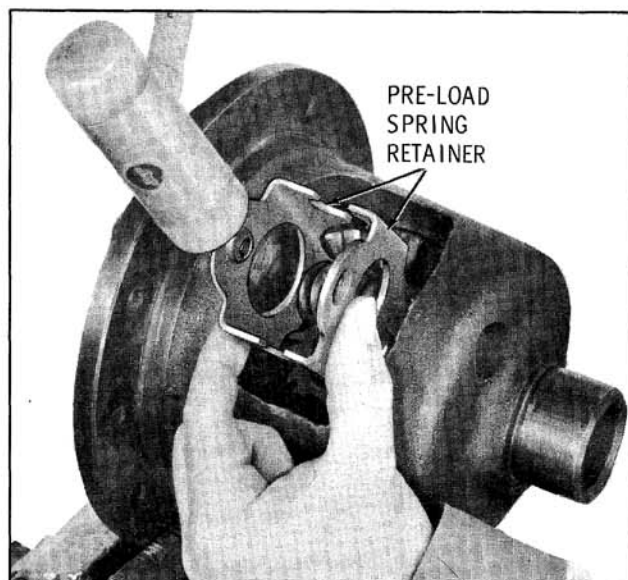

Fig. 10-51 Installing Pre-load Spring and Retainer
9. Assemble the retainer and one pre-load spring. Drive the pre-load retainer and spring between the side gears until the open ends of the retainer just start to come together. (Fig. 10-51)